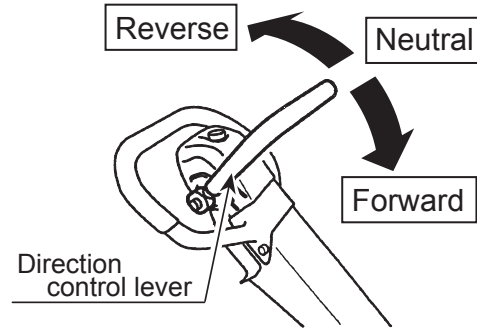

Figure 20. Direction Control Lever
3. The direction control lever allows the machine to be moved either backward or forward (Figure 20). When the direction control lever is pushed forward, the machine moves forward. When pulled backward, the machine moves backward.